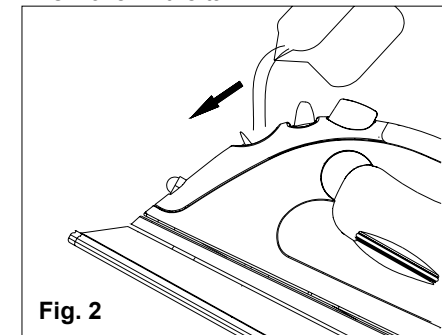

Fig. 2
2. Holding the iron at a slight angle, pour water slowly into the water filling inlet. See figure 2. Fill tank to desired level or to the "MAX" water level marking using the water filling flask. (When the iron is upright, see-through water tank allows you to gauge the amount of water.) DO NOT overfill the tank.